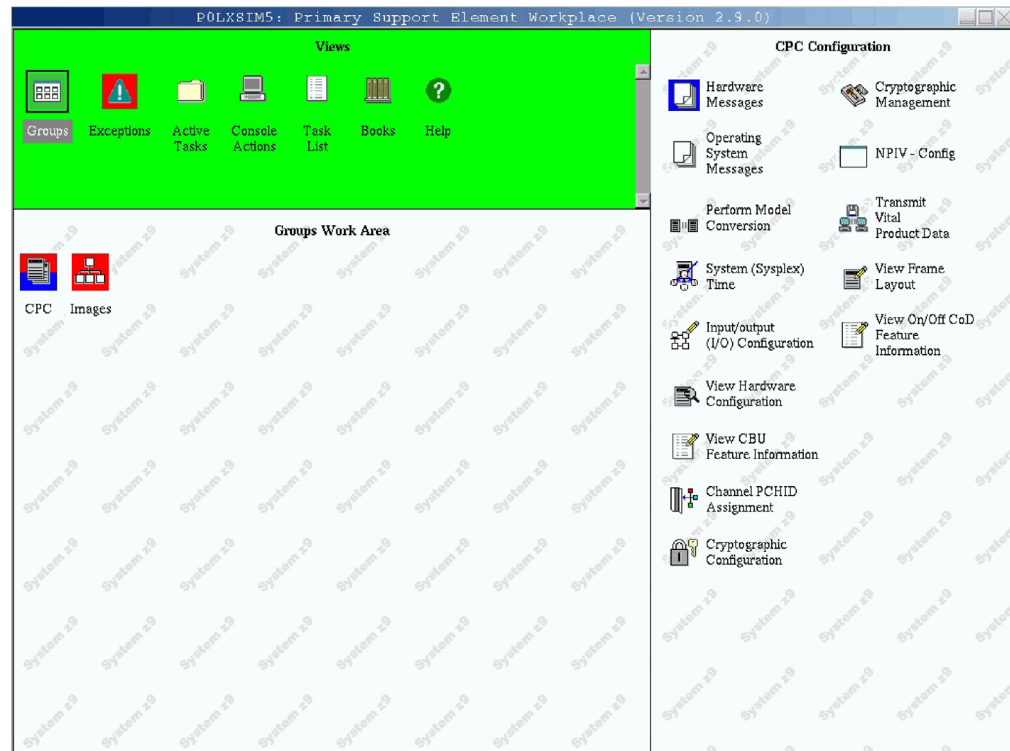

Figure 2-2. Support Element Workplace - Opening Groups
4. Open **Groups** from **Views** (see Figure 2-2).